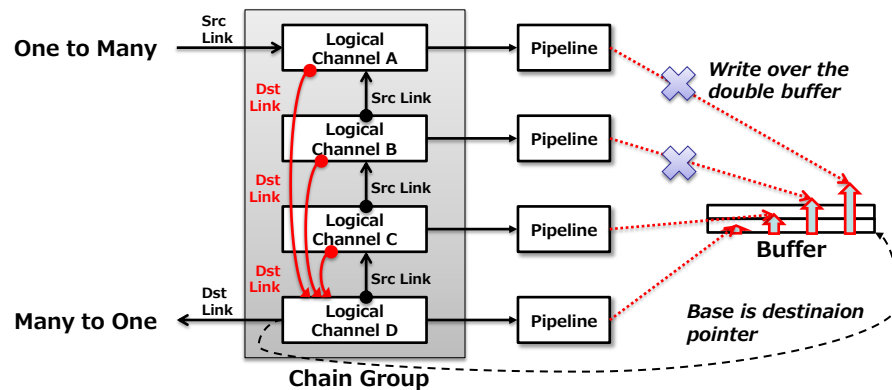

Figure 11 Cascade Link for Minimal Buffer
- To address this, a cascade link configuration, as shown in Figure 11, is used. When channels are connected in a cascade, no overtaking occurs between the preceding and following logical channels, and the Index difference remains within the transfer size or buffer size. Therefore, by preparing buffers equivalent to the number of chained links, the configuration appears as one-to-many from the entrance of the chain, and many-to-one from the exit.